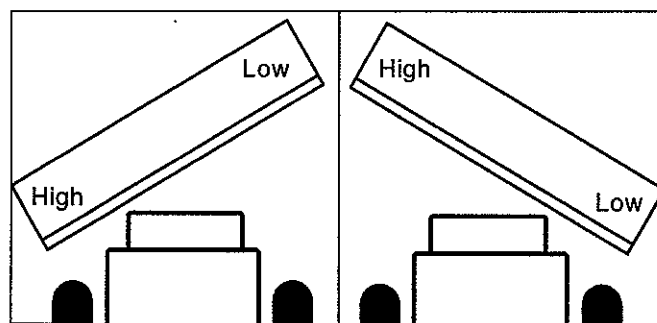

figure 5
- figure 5, loosen hardware that attaches the swing assembly to the brush head assembly; lower the left-hand side of the brush head until both sides are an equal distance above the ground. Tighten the hardware.